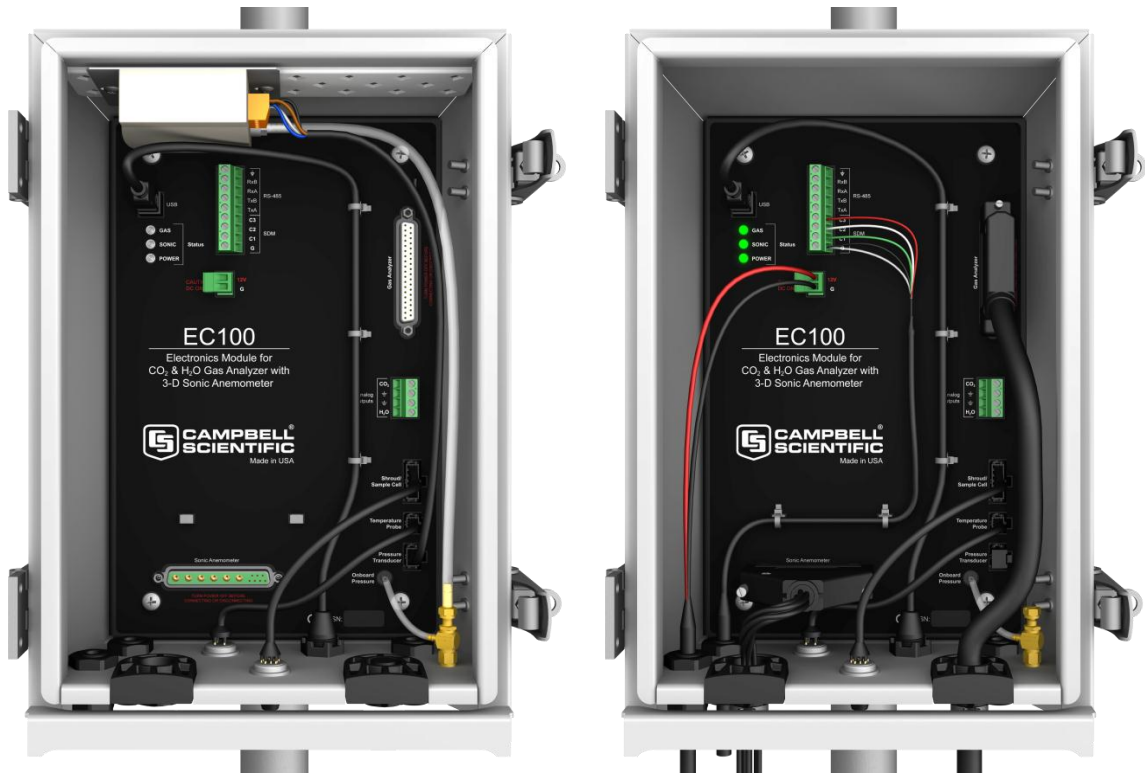

Figure 6-5. EC100 electronics front panel with enhanced barometer. At left, as received from Campbell Scientific. At right, all wiring and connections complete.
Figures 6-5, 6-6, and 6-7 show the EC100 electronics panel, the bottom of the EC100 enclosure, and sensor connections to the EC100, respectively. Refer to these figures during wiring and connecting.
1. Find the thicker black cable coming from the block of the IRGASON. This is the IRGASON gas-analyzer cable. Connect this cable to the EC100 electronics by removing the black-rubber cable entry plug on the bottom right of the EC100 enclosure. (This plug can be stored in the mesh pocket of the enclosure). Next, insert the cable entry plug that is attached to the cable into the vacant slot. Push the connector at the end of the cable onto its mating connector (labelled *Gas Analyzer*) and tighten the thumbscrews (see Figure 6-5). The gas analyzer cable is approximately 3 metres in length.
2. Connect the IRGASON sonic cable. Similar to (a), begin by removing the black- rubber cable-entry plug found on the bottom left of the EC100 enclosure. Insert the cable entry plug on the cable into the slot and connect the male end to the female connector labelled *Sonic Anemometer* on the EC100 electronics (see Figure 6-5). The sonic cable is approximately 3 metres in length.